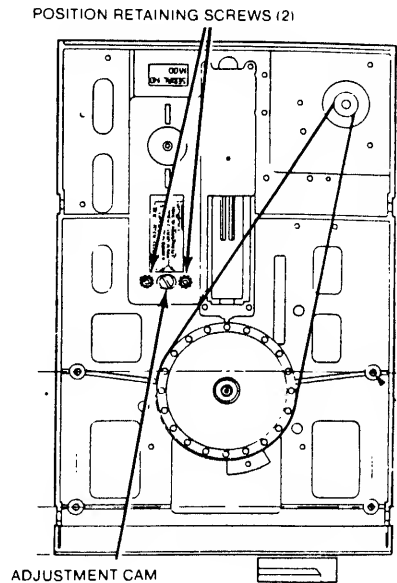

Figure 4-4. Head Module Retaining and Cam Screws
1. Loosen the 2 retaining screws that straddle the nylon adjustment cam located beneath the drive until the cam can be moved (see figure 4-4).